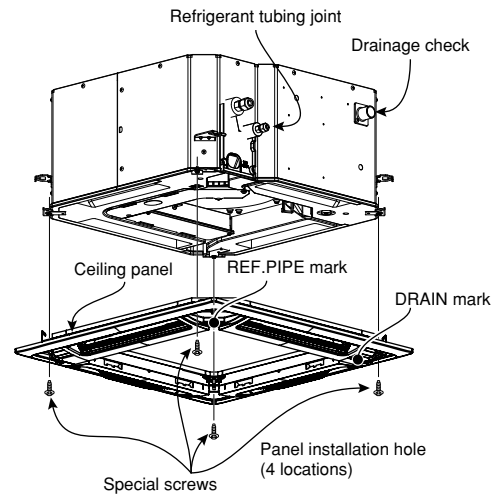

Fig. 6-18
(2) Align the panel installation holes and the unit screw holes. (Fig. 6-18)
(3) Tighten the supplied special screws at the 4 panel installation locations so that the panel is attached tightly to the unit.